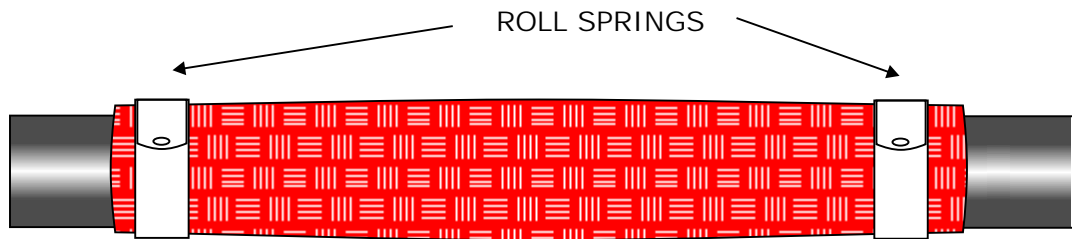

Fig 6
11. Slide the Red Silicone coated Fire Barrier Tube across the joint gap so that it overlaps equally distant at both sides. Secure at each side with a Stainless Steel Roll Spring as shown in Fig 6.